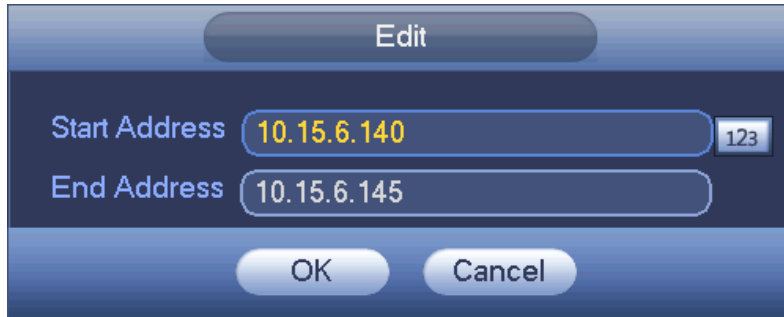

Figure 4-219
- Edit: Click it to edit start address and end address. See Figure 4-219. System can check the IP address validity after the edit operation and implement IPv6 optimization.